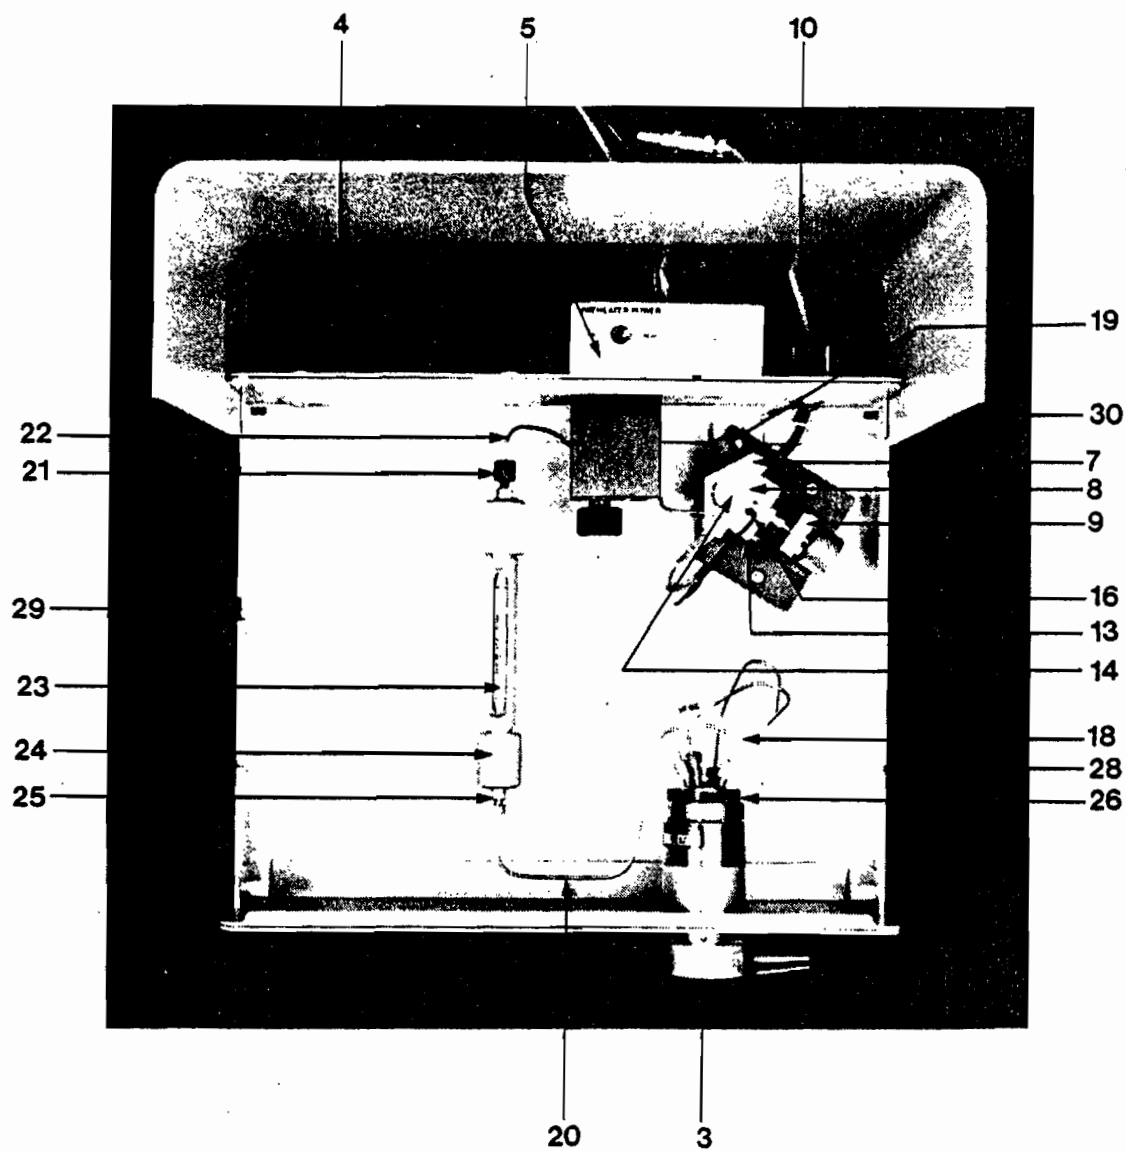
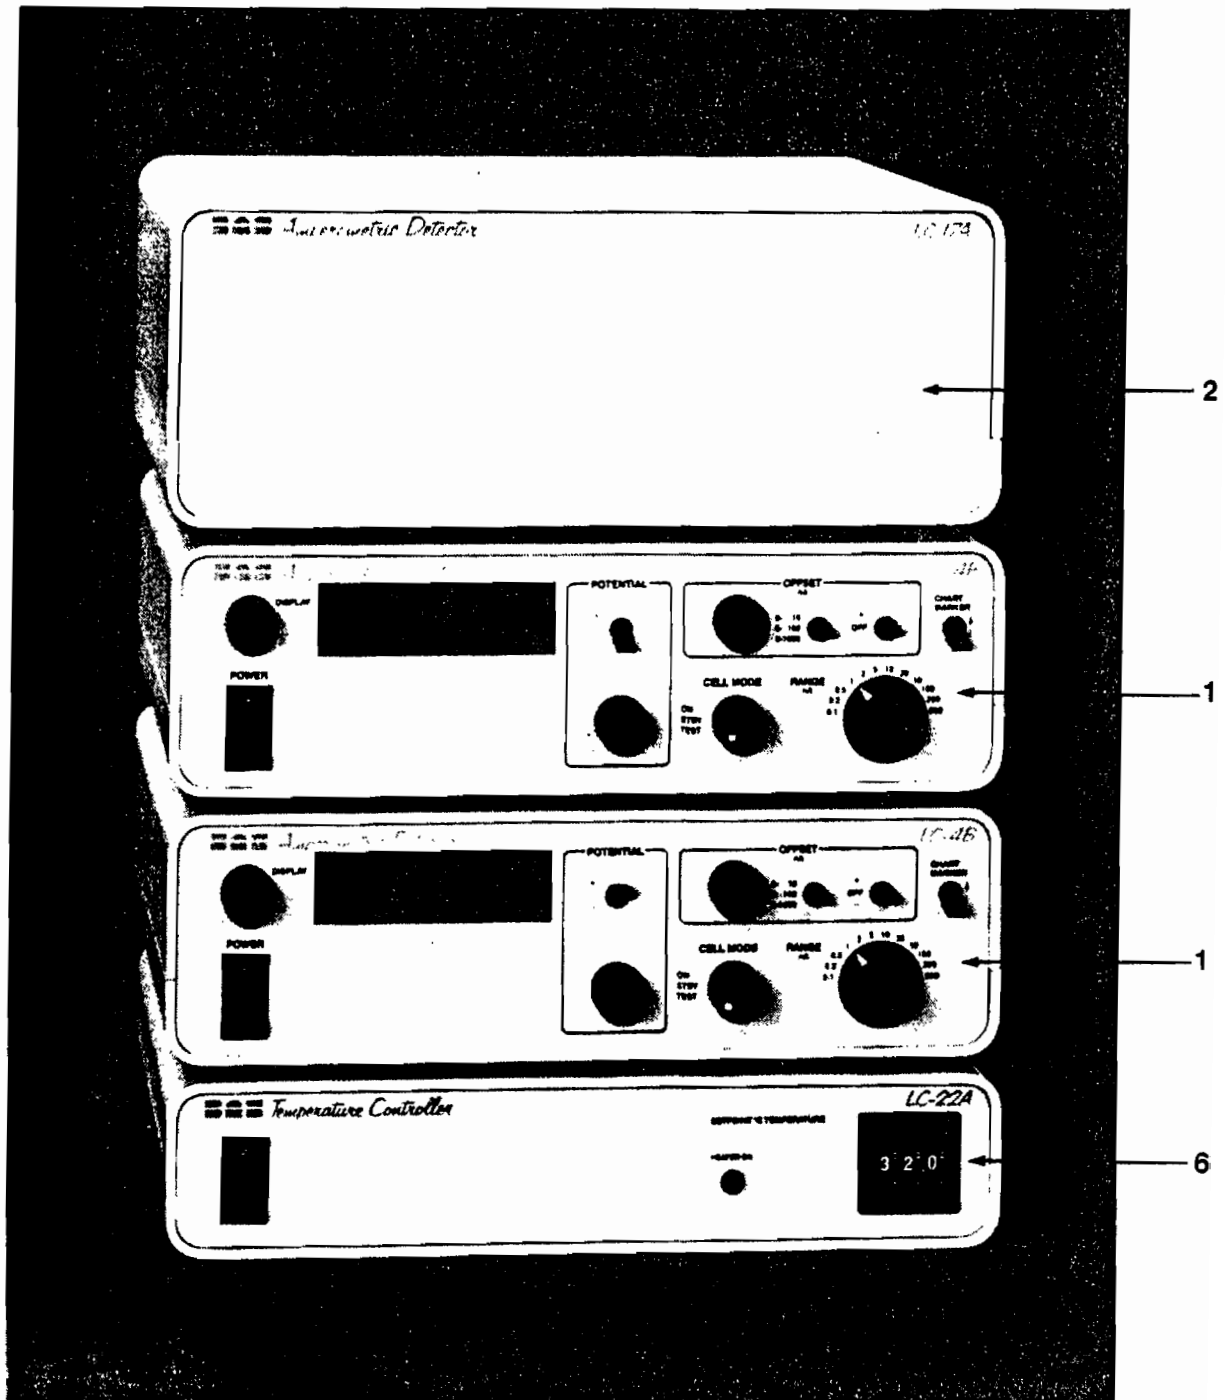

Figure 3-1. Top view of LC-17AT module, configured as part of a BAS 400 system. Refer to Table 3-1 for descriptions and part numbers of components.
Figure 3-2. Dual LC-4B/17AT Detector (MF 9102).
(refer to Figures 3-1 through 3-4)
Electrochemical detection requires a solvent delivery system that delivers a constant rate of flow. The detector will respond to long term and short term changes in flow rate. A gradual increase in flow rate will produce a gradual increase in baseline current response. Likewise, a rapid cycling in flow rate will cause a sinusoidal baseline response. Both types of flow rate changes will severely limit detector performance. Ideally, this instrument will be part of a BAS 400 Liquid Chromatograph. The BAS PM-48 Pump in this system provides excellent flow rate precision and minimal pump pulsation. The PM-48 Pump may be connected directly to the injection valve port (e.g., #26 in Figure 3-1).
1. Place the interconnected detector components next to the column outlet from the chromatograph, or install your column inside the LC-17A (Figure 3-1). Several slots in the LC-17A chassis along the sides and back provide tubing access, no matter what the orientation. On a BAS 400 system, the detector components may sit directly on top of the PM-48 Pump. See Figures 3-2, 3-3, and 3-7 for ideas.